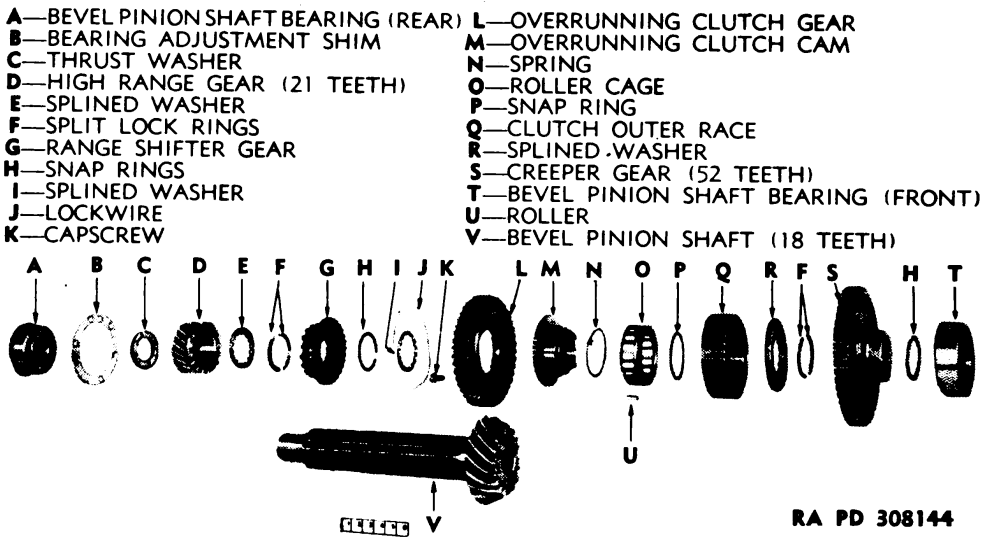

Figure 44 — Bevel Pinion Shaft and Gears Disassembled
(3) **TRANSMISSION SHAFTS** (figs. 44 and 45). Check shafts for straightness and general condition. Try bearings on their respective shafts. All bearings must fit on shafts with a light press fit. Make sure the bearing surfaces on shafts are smooth and that there are no burs preventing bearing from fitting tightly against shoulders on shafts. Try all gears on their respective shafts to make sure they slide easily in the shaft splines. If splines are badly worn or damaged by the gears, replace gears or shafts. Make sure all snap rings and snap ring grooves are not worn or rounded to the point where snap rings may be broken or slip out of grooves. Make sure all threads in transmission case or transmission shafts are clean and in good condition.
d. **Install Bevel Pinion Shaft Assembly** (fig. 44).